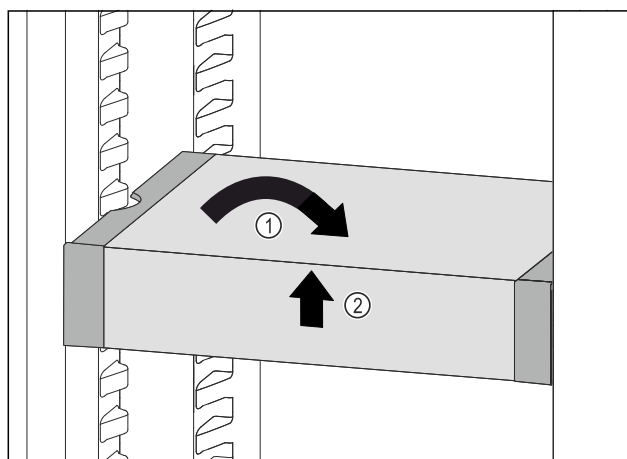

Fig. 32
- Set VarioSafe straight. Fig. 32 (1)
- Lift VarioSafe at the front. Fig. 32 (2)